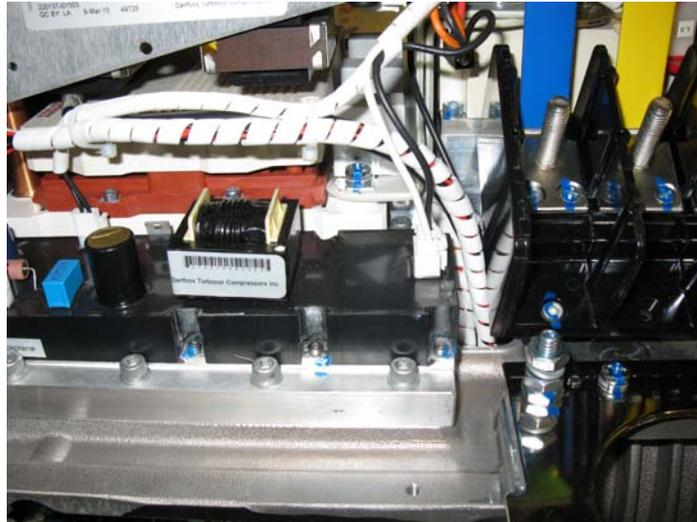
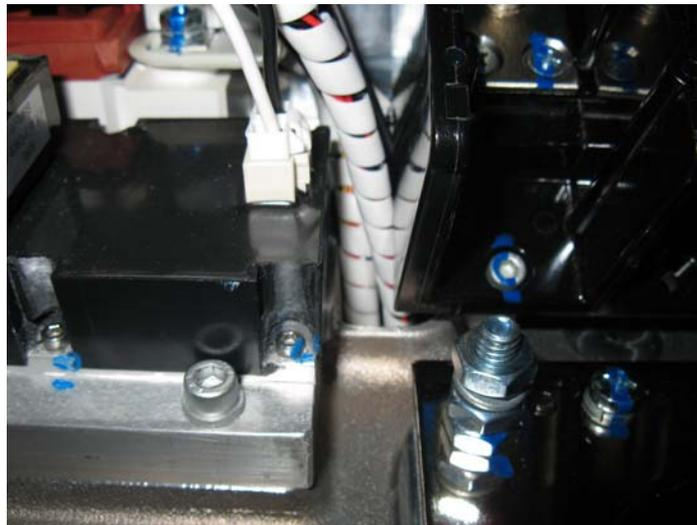

Figure 5 Cable Passage
Figure 6 Service Side Pass Through
13. Route the cable into the cable passage on the right side of the high voltage (HV) DC-DC converter, down into the service side (see Figure 5 and Figure 6).